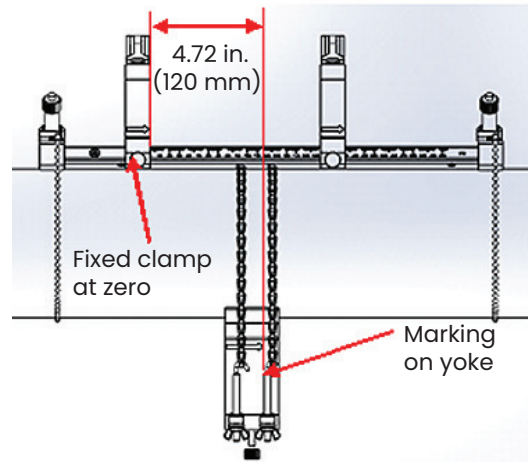

Figure 30: Yoke set at 120 mm/4.72 in.
- Spacing <305 mm (120 mm/4.72 in. is used as an example): measure the required 120 mm/4.72 in. distance from the edge of the fixed clamp to the marked line on the yoke (see Figure 30 below).